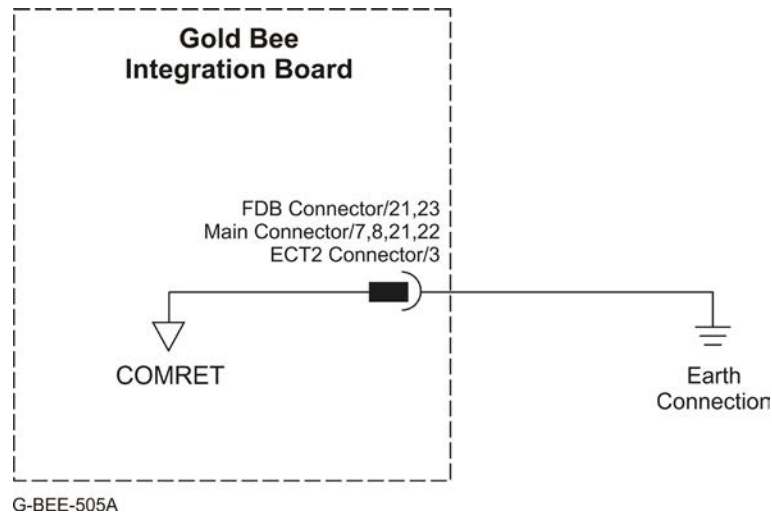

Figure 9: COMRET Connection to the PE
At least one COMRET pin (Figure 9) must be connected to the Protective Earth (PE).